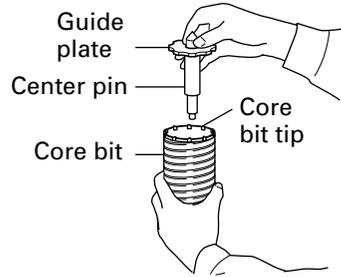

Fig. 14
- (3) Insert the center pin into the guide plate until it reaches the extremity.
- (4) Fit in the guide plate by aligning its concave portion with the core bit tip. When the position of the concave is shifted by turning the guide plate right or left, the guide plate never slips off even when the rotary hammer is used in a downward direction. (Fig. 14)